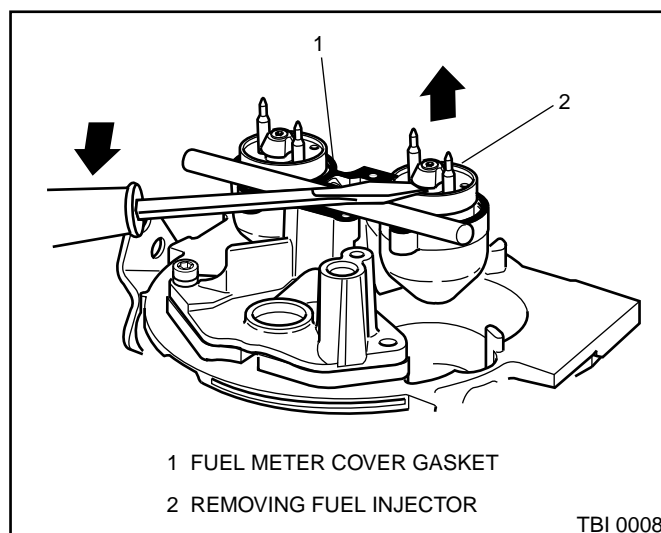

Figure 3-15 - Removing Fuel Injector
6. With fuel meter cover gasket in place to prevent damage to casting, use a screwdriver and fulcrum to carefully lift out each injector (Figure 3-15).